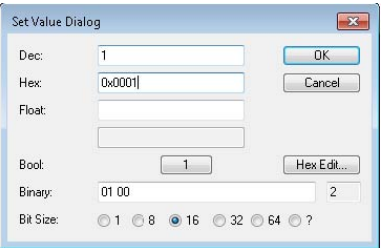

Figure 32. Set Value Dialog Box
5. The **Set Value Dialog** box (see Figure 32) opens, edit the value, and click **OK**. The corresponding **Digital Ins** value then updates to match the **Digital Outs** value.